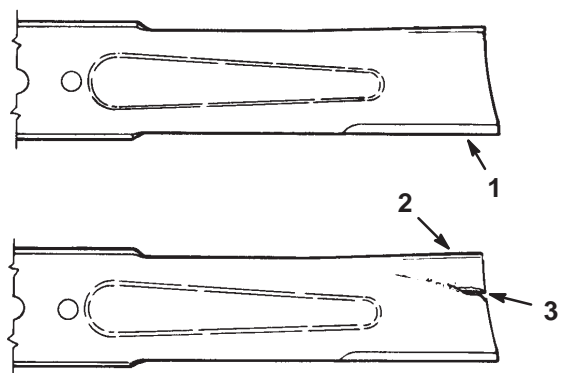

Figure 40
1. Inspect the cutting edges (Fig 40). If the edges are not sharp or have nicks, remove and sharpen the blades. Refer to Sharpening the Blades on page 36.
2. Inspect the blades, especially the curved area (Fig. 40). If you notice any damage, wear, or a slot forming in this area (item 3 in Fig. 40), immediately install a new blade.